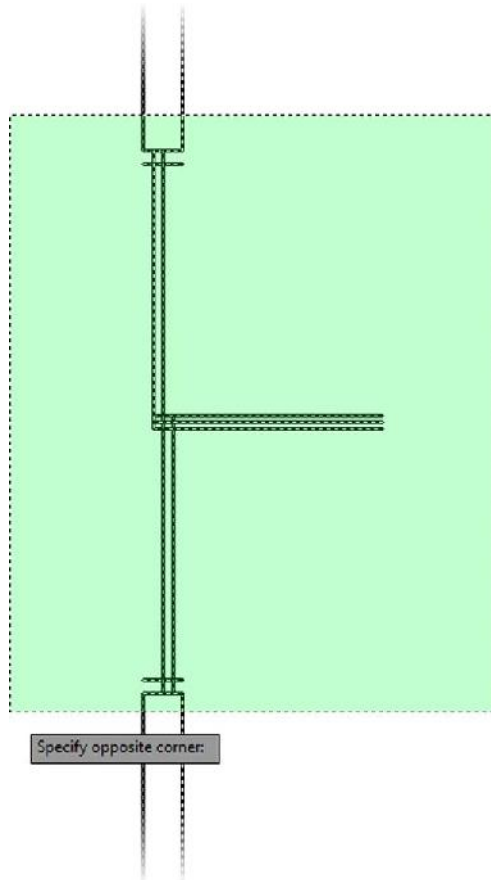

FIGURE 4.68: The crossing window for selecting cutting edges
- b. Move the cursor to a point below and to the left of the opening, forming a semitransparent green-colored window with dashed boundary lines (see Figure 4.68).